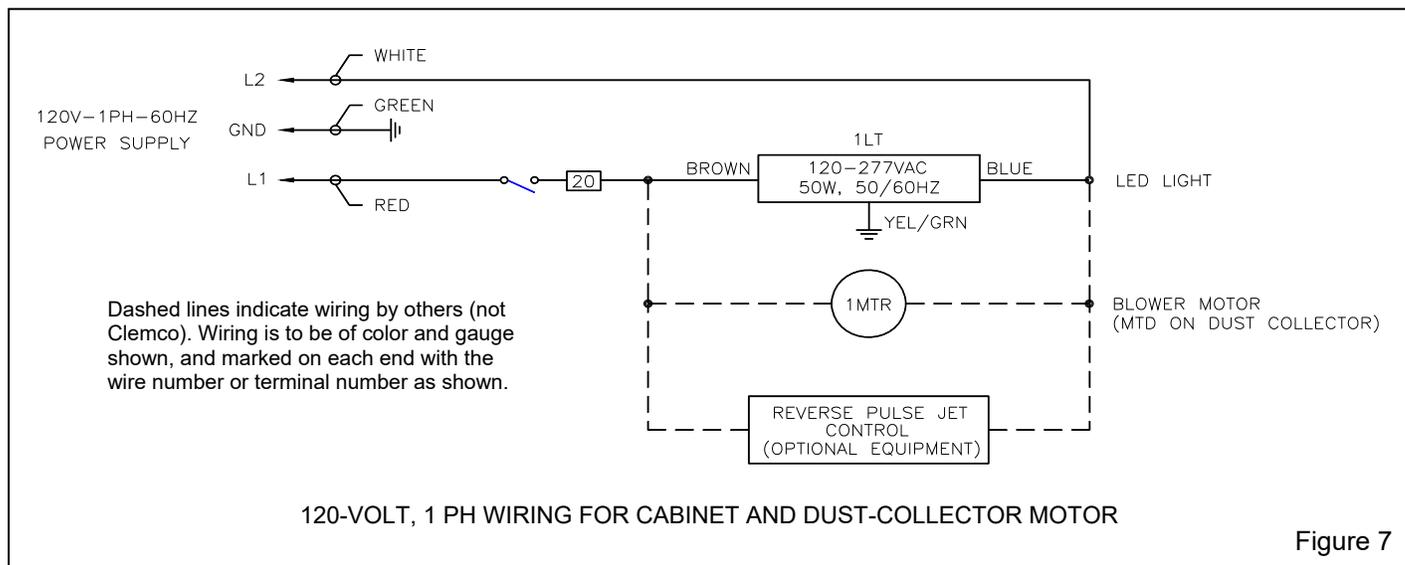

Figure 7
**2.5.1.2** Refer to the wiring schematic in Figure 7 and wire the dust-collector motor, per instruction on the motor data plate, to the junction box mounted on the cabinet.
When wired, as noted in Figure 7, the dust-collector exhaustor motor will start when the cabinet light switch is turned ON and stop when the switch is turned OFF.